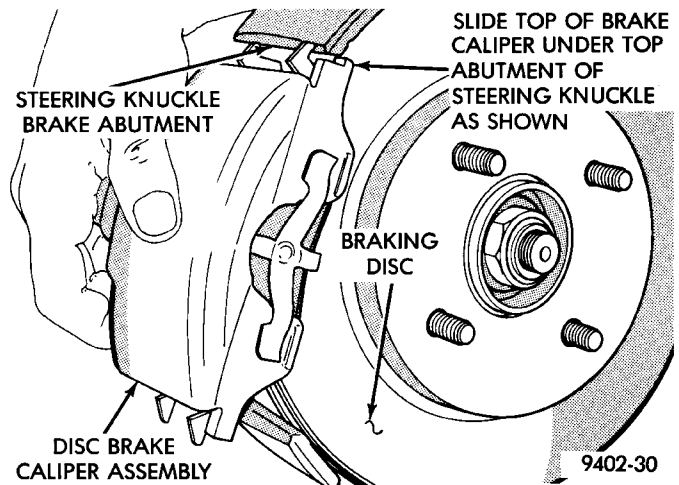

Fig. 21 Disc Brake Caliper Assembly Installation
(10) Install disc brake caliper assembly on steering knuckle. Caliper is installed by first sliding top of caliper under top abutment on steering knuckle. Then installing bottom of caliper against bottom abutment of steering knuckle (Fig. 21).